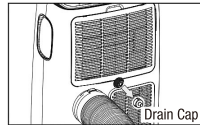

Fig. 17
- Unscrew the drain cap of continuous drain outlet (Fig.17).